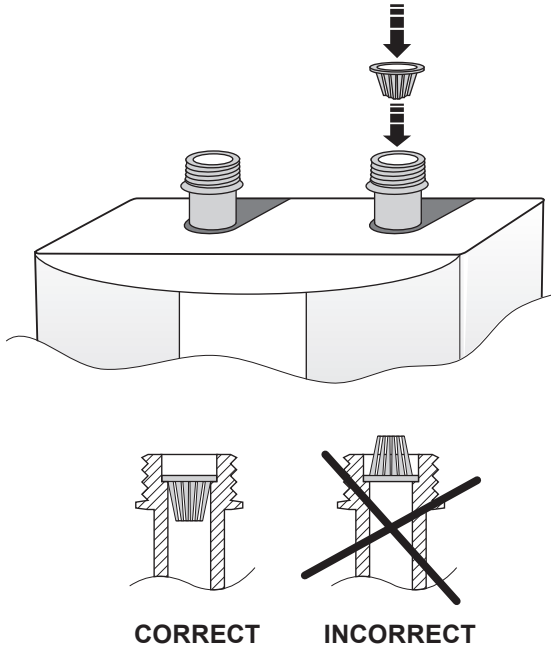

fig. 5
3. Connect the heater according to section 4 of the manual. Remember to insert the water filter according to the instructions shown in the fig. 5. Use only flexible hoses with rubber gaskets designed for pressurized installation. Do not swap the heater outlet (red) with the heater inlet (blue).
Caution! Do not screw the hose nuts too much so as not to damage the stud pipe threads of the heater. Removing the water filter will result in the loss of warranty. The filter must be installed according to the instructions given in fig. 5.